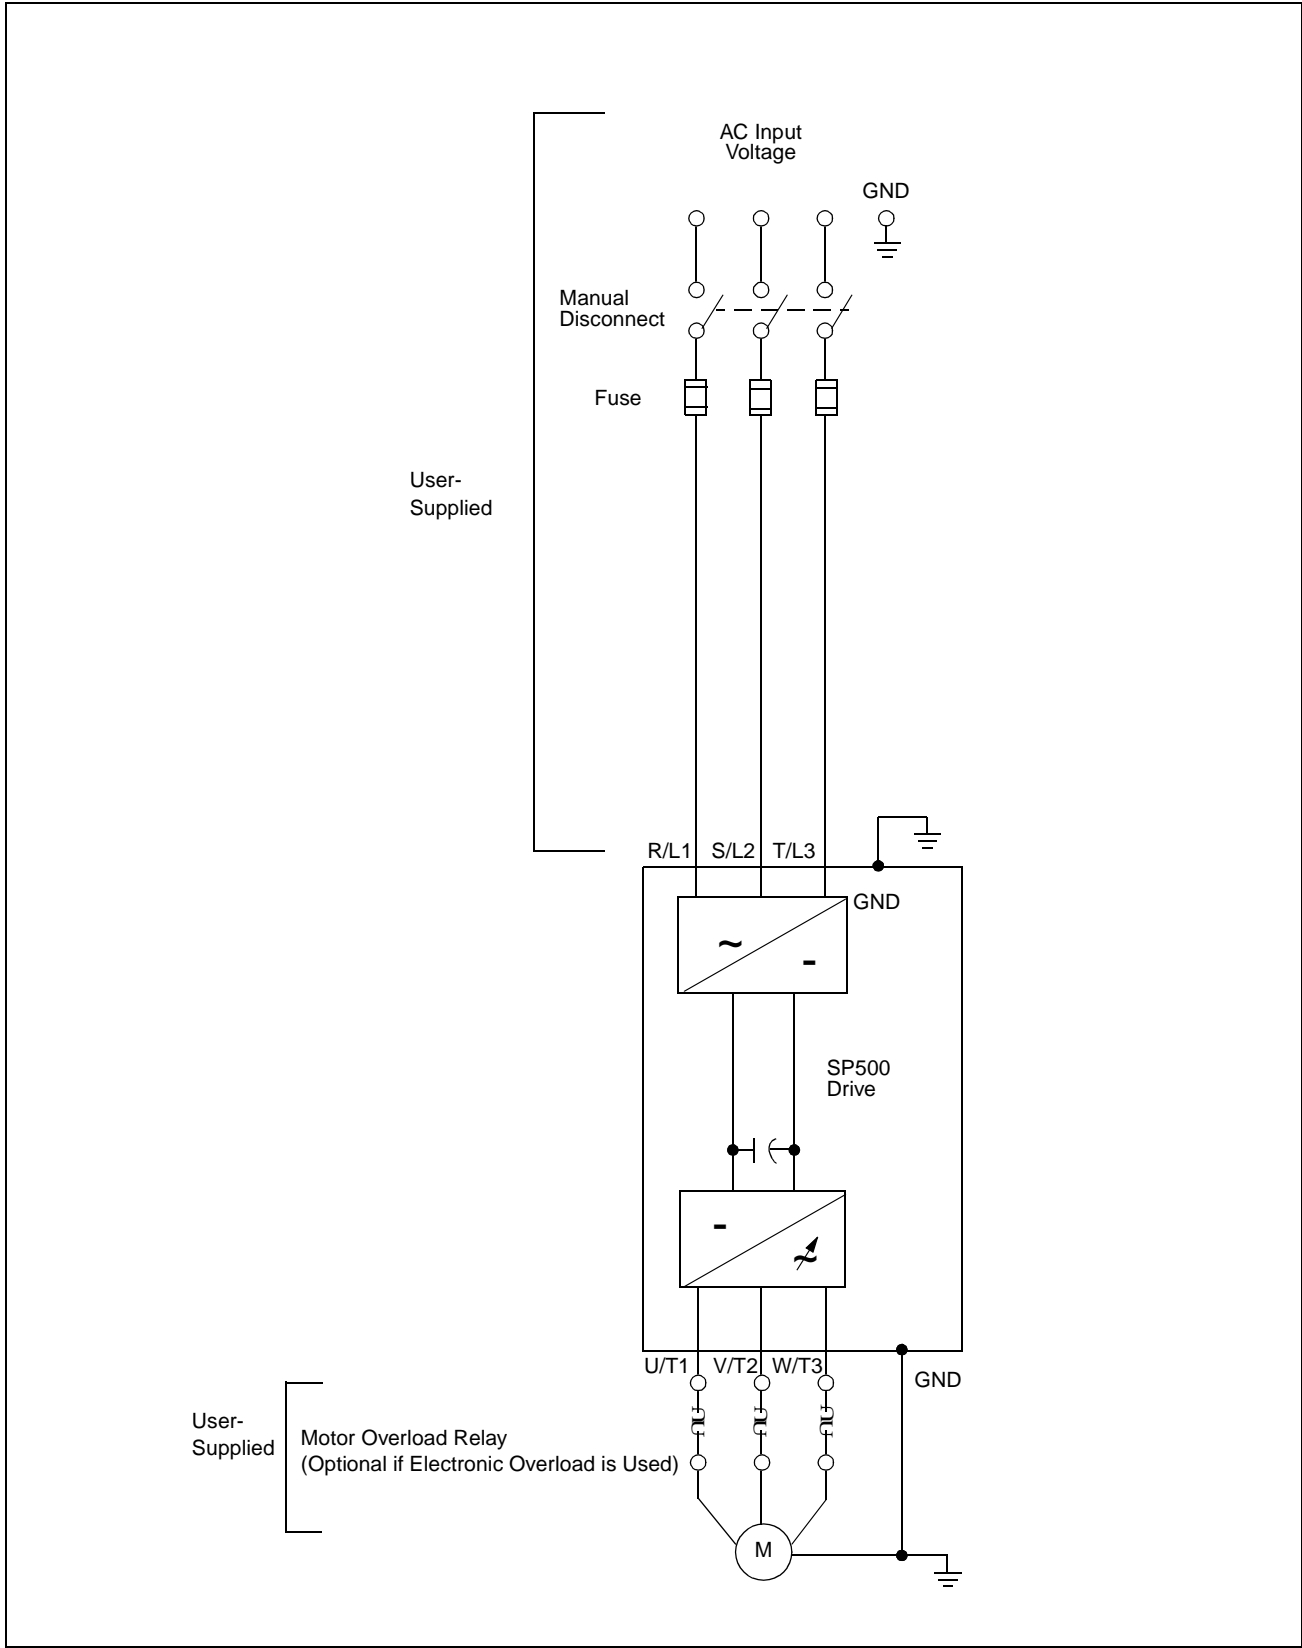

Figure 5.1 – Typical Electrical Connections
Install the input power and output power components that are located outside of the SP500 enclosure. See figure 5.1. The following sections describe disconnect, transformer, and AC line branch protection installation.
- Step 3. Connect the AC input power leads to terminals R,S,T on the power terminal strip. See figure 5.1.
Step 2. Connect the AC output power motor leads to terminals U, V, and W on the power terminal strip. See figure 5.1.